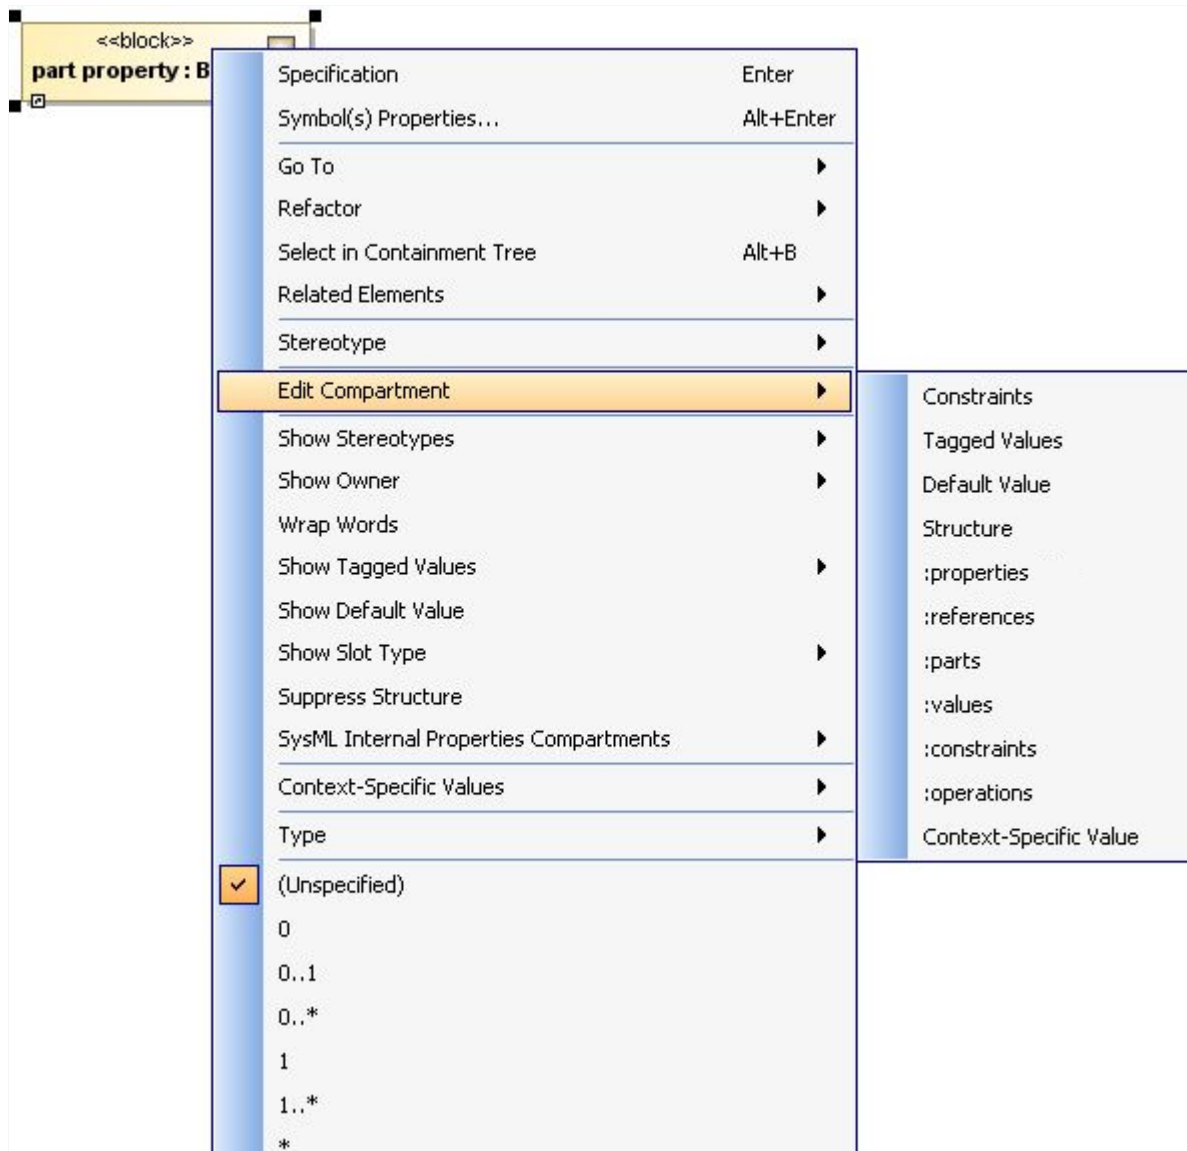
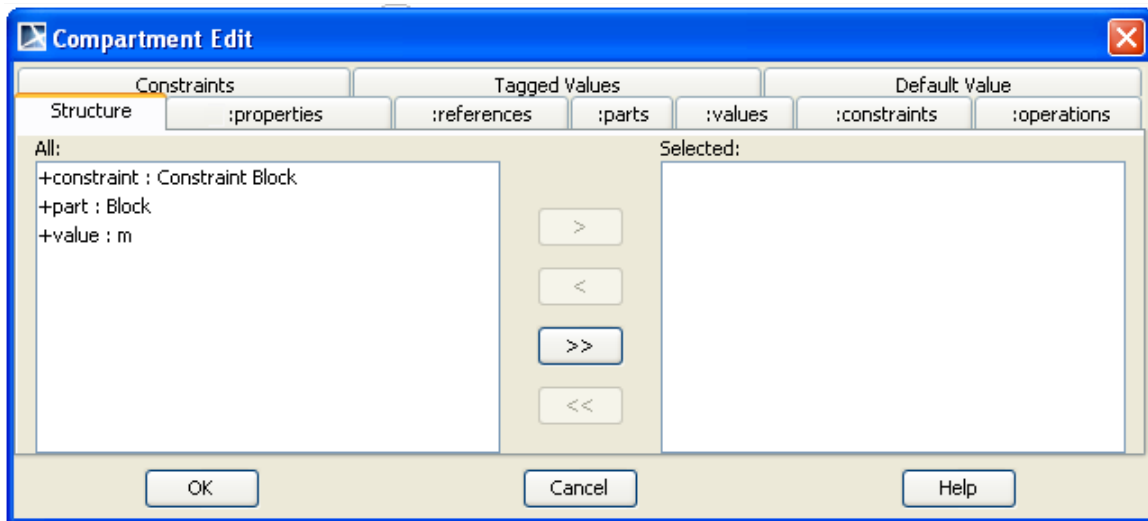

Figure 65 -- Property Shortcut Menu to Customize Part Compartments
Figure 66 -- Compartment Edit Dialog
2. Select a compartment to be customized (Figure 65). The **Compartment Edit** dialog will open (Figure 66).
3. In the **Compartment Edit** dialog, move an element from the **All:** to the **Selected:** box to display the element (Figure 66). Click **OK** when done.